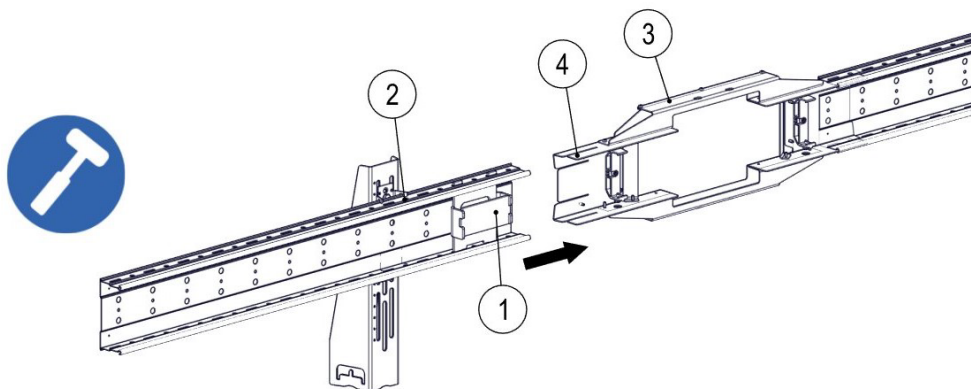

Fig. 27: Tap ProShell support profile rail (2) onto connecting tabs (4) of fastening frame (3)
5. A connector tab (4) is integrated on the fastening frame (depending on the conductor rail program or line feed option) (3), so that the additional ProShell support profile rails (2) can be tapped in using the installation tool (Order No.: 08-V015-0483) (1) and a soft-faced hammer (see Fig. 27).